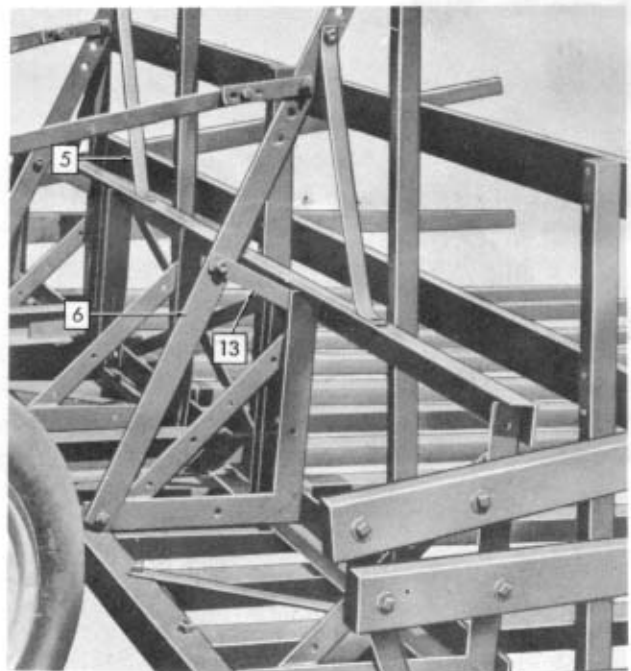

Figure 5
**Step 13:** Attach short push-off braces (13) to outer edge of 2nd and 4th steel triangles and under flange of the top cross head angle. (Attach brace with hole closest to end to allow proper fitting.) See Figure 5.
**Step 14:** Attach push-off steel uprights (6) to 2nd and 4th steel triangles just above bottom rear cross angle (8). See Figure 5.
**Step 15:** Attach outer end of short push-off brace (13) to steel push-off uprights (6). Figure 5.